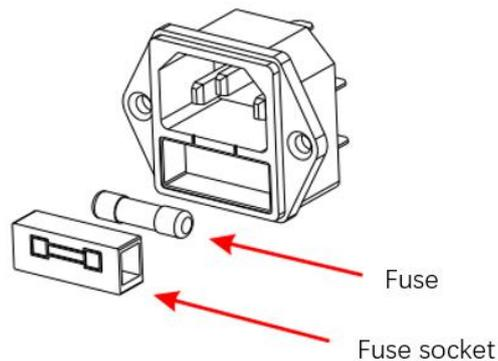

Figure 1-2 Exploded View of Power Socket
3. Remove the fuse and replace it with a specified one. Refer to Figure 1-2.